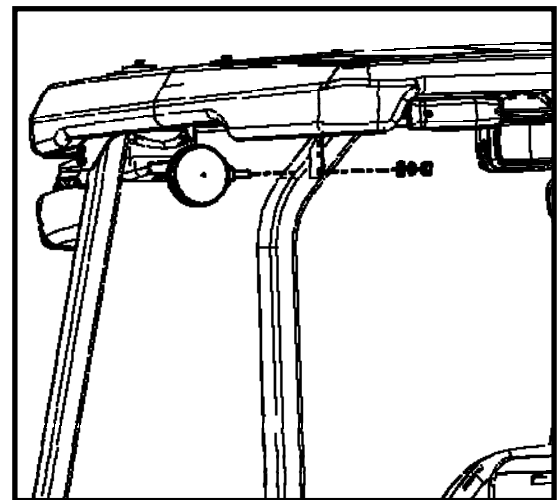

Figure 1.2: Remove Rear Round Work Lights
- 1.2 Unplug and remove the round directionals from the rear of the vehicle (see Figure 1.2).